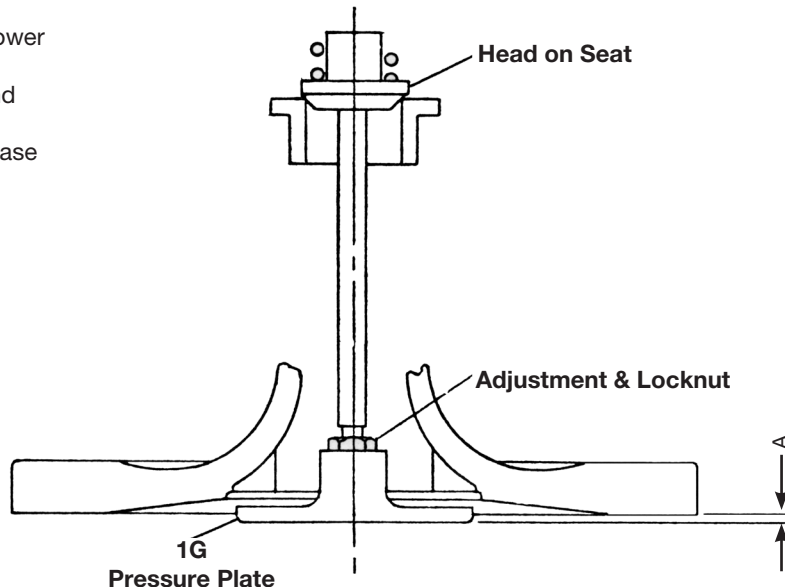

Fig 5
1. Unscrew copper tubing connection at (G).
8. Make certain pressure plate (1G) is set properly. (Refer to Figure 5)